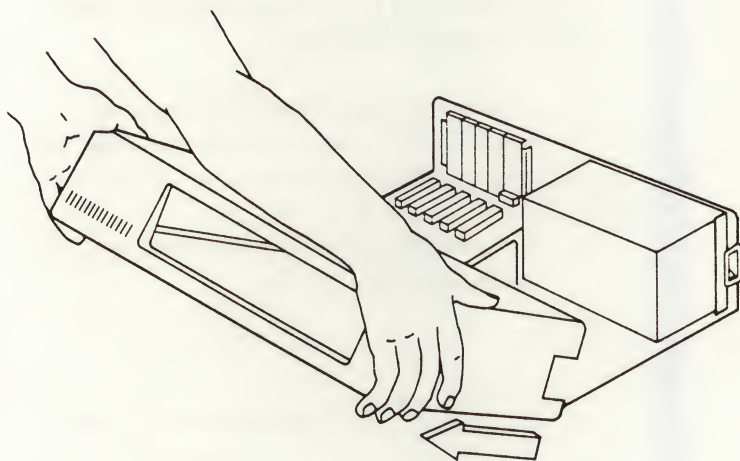

Figure 3-11 Removing the Cover
3. Grasp the cover in both hands and slide it forward and off as shown in Figure 3-11.